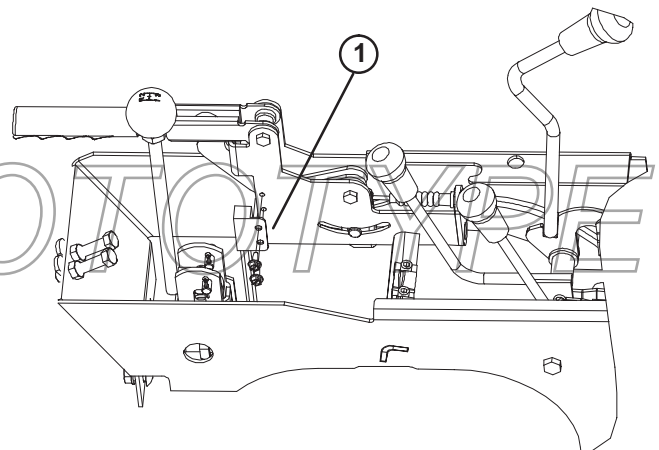

Figure 3
5. Mount switch to parking brake mount with (2) screws as shown in figure 3.